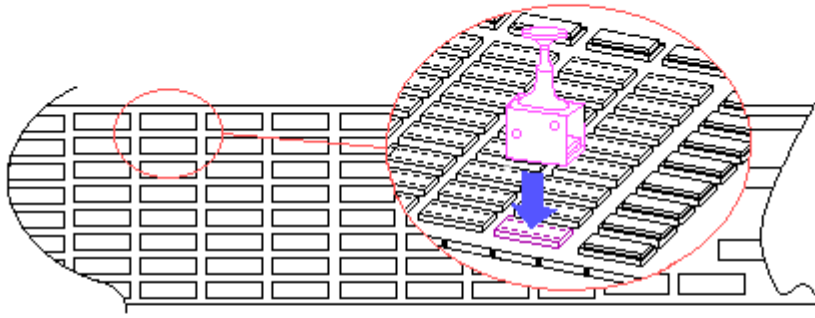

Figure 7.10-7. Replacing a Defective Memory Chip
- Using the special IC insertion tool, replace the defective memory or ROM chip(s) (Figure 7.10-7).